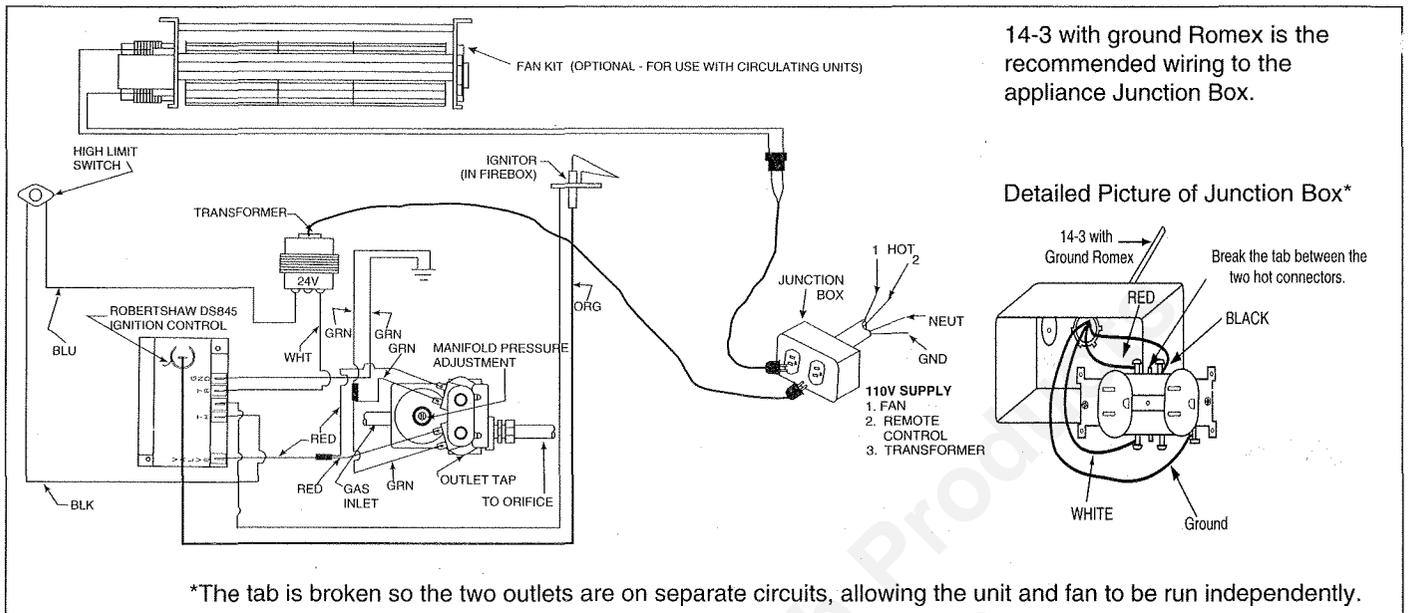

Figure 12 - Electronic Ignition Wiring Diagram
1. Appliance Requirements. This appliance requires a 110VAC supply from a remote wall switch to the appliance junction box for operation. In line with this junction box, you must have an on/off switch or a BC10. A wiring diagram is shown in Figure 12. 14-3 gauge wiring with ground is recommended to the appliance Junction Box.
3. Optional Accessories Requirements. Optional accessories may be added now or at a later date, however, wiring should be done now to avoid significant wall reconstruction. The optional fan kit requires a separate 110VAC supply to the appliance junction box for operation, as shown in Figure 12. No additional 110VAC supply is required for the fan motor speed control (BC10) or the remote control (RC5). Wiring diagrams are provided with all accessories.